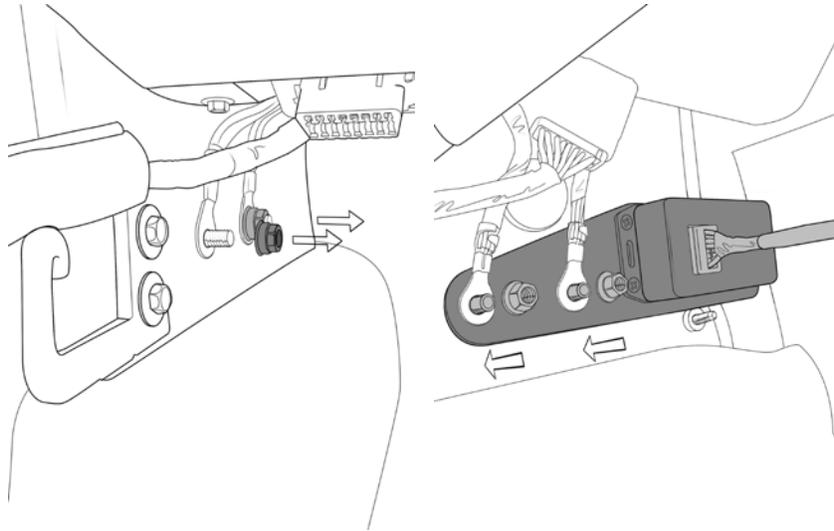

Figure 52
- g. Remove both 10mm ground nuts from the lower driver side inner body located next to floor pedals. Connect routed through module harness to module (connector E). Reinstall both 10mm ground nuts.(fig 52).